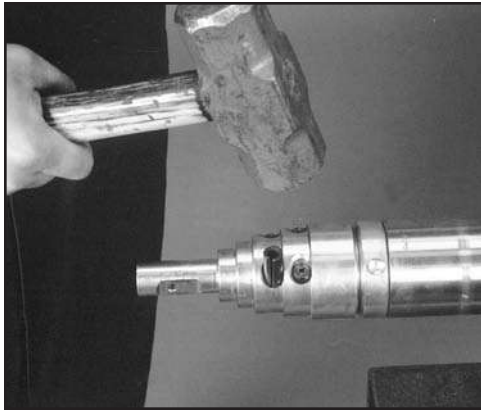

FIG. 32: DRIVE IN THE OUTER ROLL PINS
14. Drive in the larger roll pins first with the split side towards the outside, short ones in front, longer ones in rear (see Fig. 32).